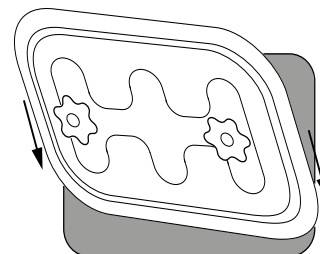

Fig. 2
3. Slip inner plate through duct opening at an angle (Fig. 2).